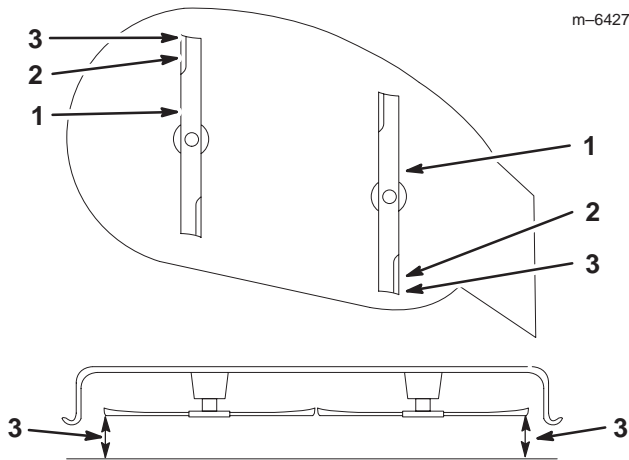

Figure 40
- Set the height-of-cut at position **D** [3 inch (76 mm)] and carefully rotate the blades so they are facing front to rear (Fig. 40).
- Measure from the tip of the front blade to the flat surface and the tip of the rear blade to the flat surface (Fig. 40). If the front blade tip is not 1/16–5/16 inch (1.6–7.9 mm) lower than the rear blade tip, adjust the front locknuts.